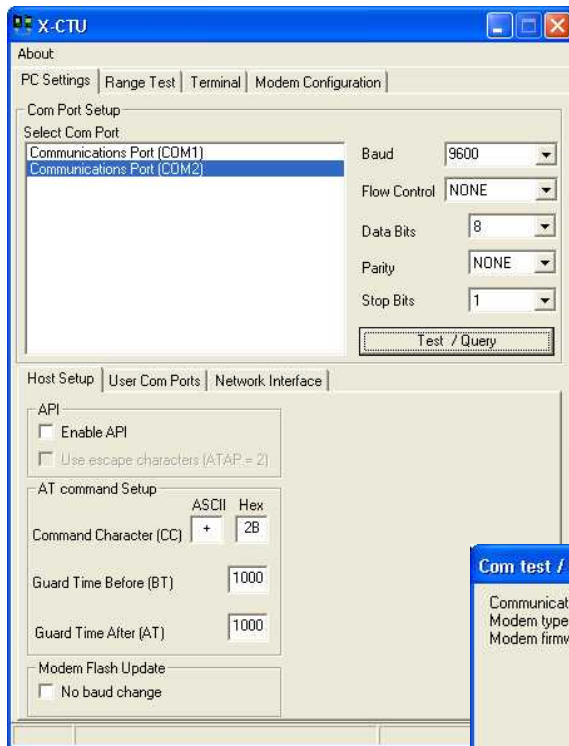

Figure 8
2. On the "PC Settings" tab (opening screen, Figure 8), select desired Comm Port from the list.